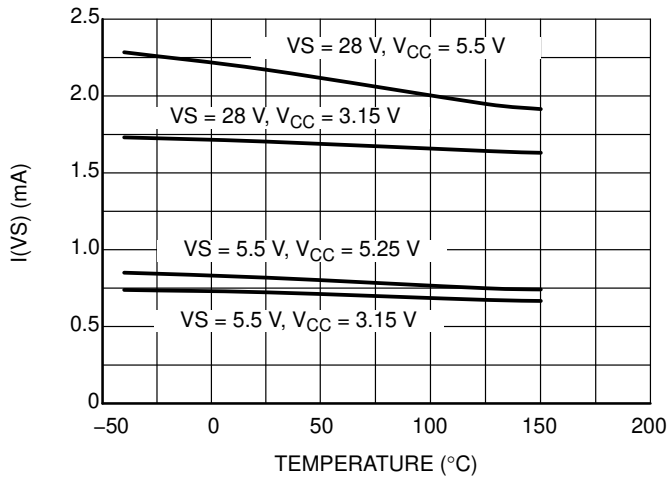

Figure 11. I(VS) vs. Temperature
- Refer to Figure 11. I(VS) versus Temperature.